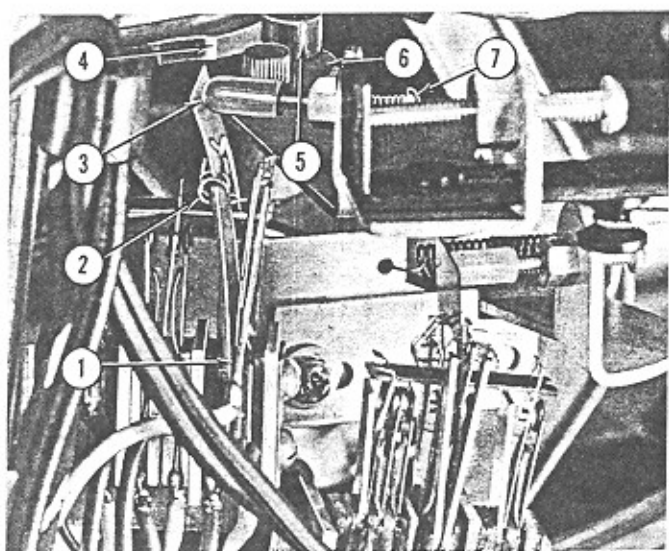

Fig. 31. TRANSFER SWITCH ADJUSTMENT
The transfer switch (Item 1, Fig. 31) is a part of the "switch and bracket" assembly mounted on the rear of the chassis casting below the record changer motor. The actuating arm (Item 6) for the transfer switch has one adjusting screw, which regulates the action of the transfer switch. The actuating arm pivots on the chassis casting and is operated by its roller (Item 5) against one of the lateral lobes (Item 4) of the main cam. Adjustment of the transfer switch may be accomplished as follows:
a. Advance the record changer cycle of operation until the roller (Item 5, Fig. 31) is at the base of the long cam lobe (Item 4). In this condition the adjusting screw (Item 7) should be backed off enough to clear the actuating tab of the transfer switch.
b. Advance the cycle to a point where the roller (Item 5, Fig. 31) rides up on the cam lobe (Item 4).
c. Turn the adjusting screw (Item 7, Fig. 31) clockwise until the transfer switch is actuated over-center by its toggle spring (Item 2). After the switch has actuated, continue advancing the adjusting screw to provide $1/32''$ to $1/16''$ over-travel as measured at the tip of the screw. The screw has 32 threads per inch, therefore one to two full turns of the screw will suffice.